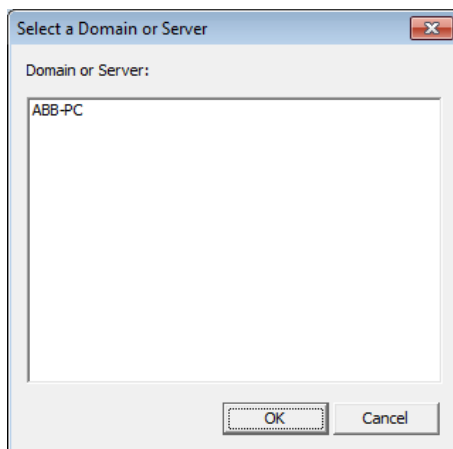

Figure 57. Select a Domain or Server Dialog Box
- i. A Select a Domain or Server dialog box similar to the one shown in Figure 57 appears. There will be one or more possible selections. Select the correct Domain or Server and click **OK** to return to the Browse for a User Account dialog box.